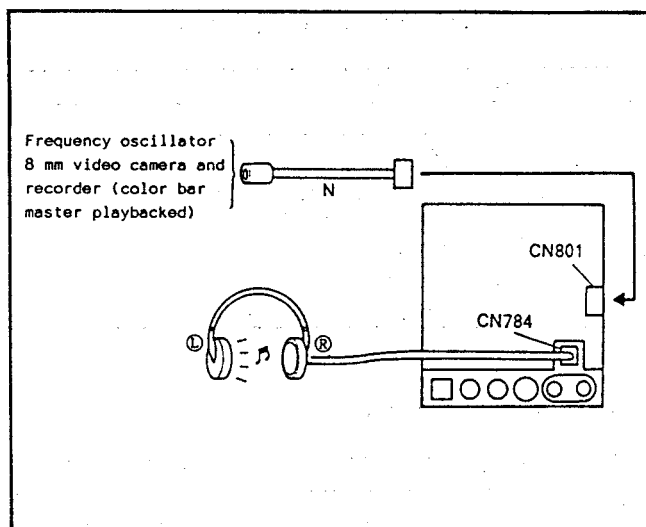

Fig. II-78
- (1) Using the extension connector N, apply a signal to CN801 (AUDIO-VIDEO C.B.A.) from the following sources. (See the Fig. II-78.)
- (2) Plug a headphone to the headphone jack.
- (3) While listening to a sound from the headphone, adjust the VR807 so that the sound is emitted only from the L-channel.